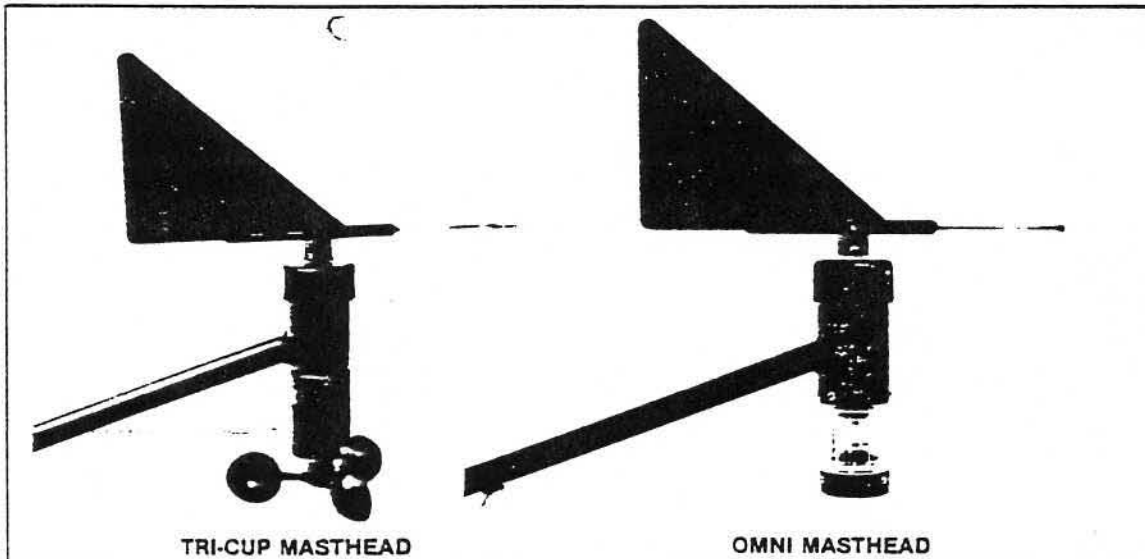

Figure 2.2
4. Masthead Sensor with 80 ft. cable (Masthead sensor units are shown in Figure 2.2 The particular unit included is dependent upon the System 2000 configuration ordered.)